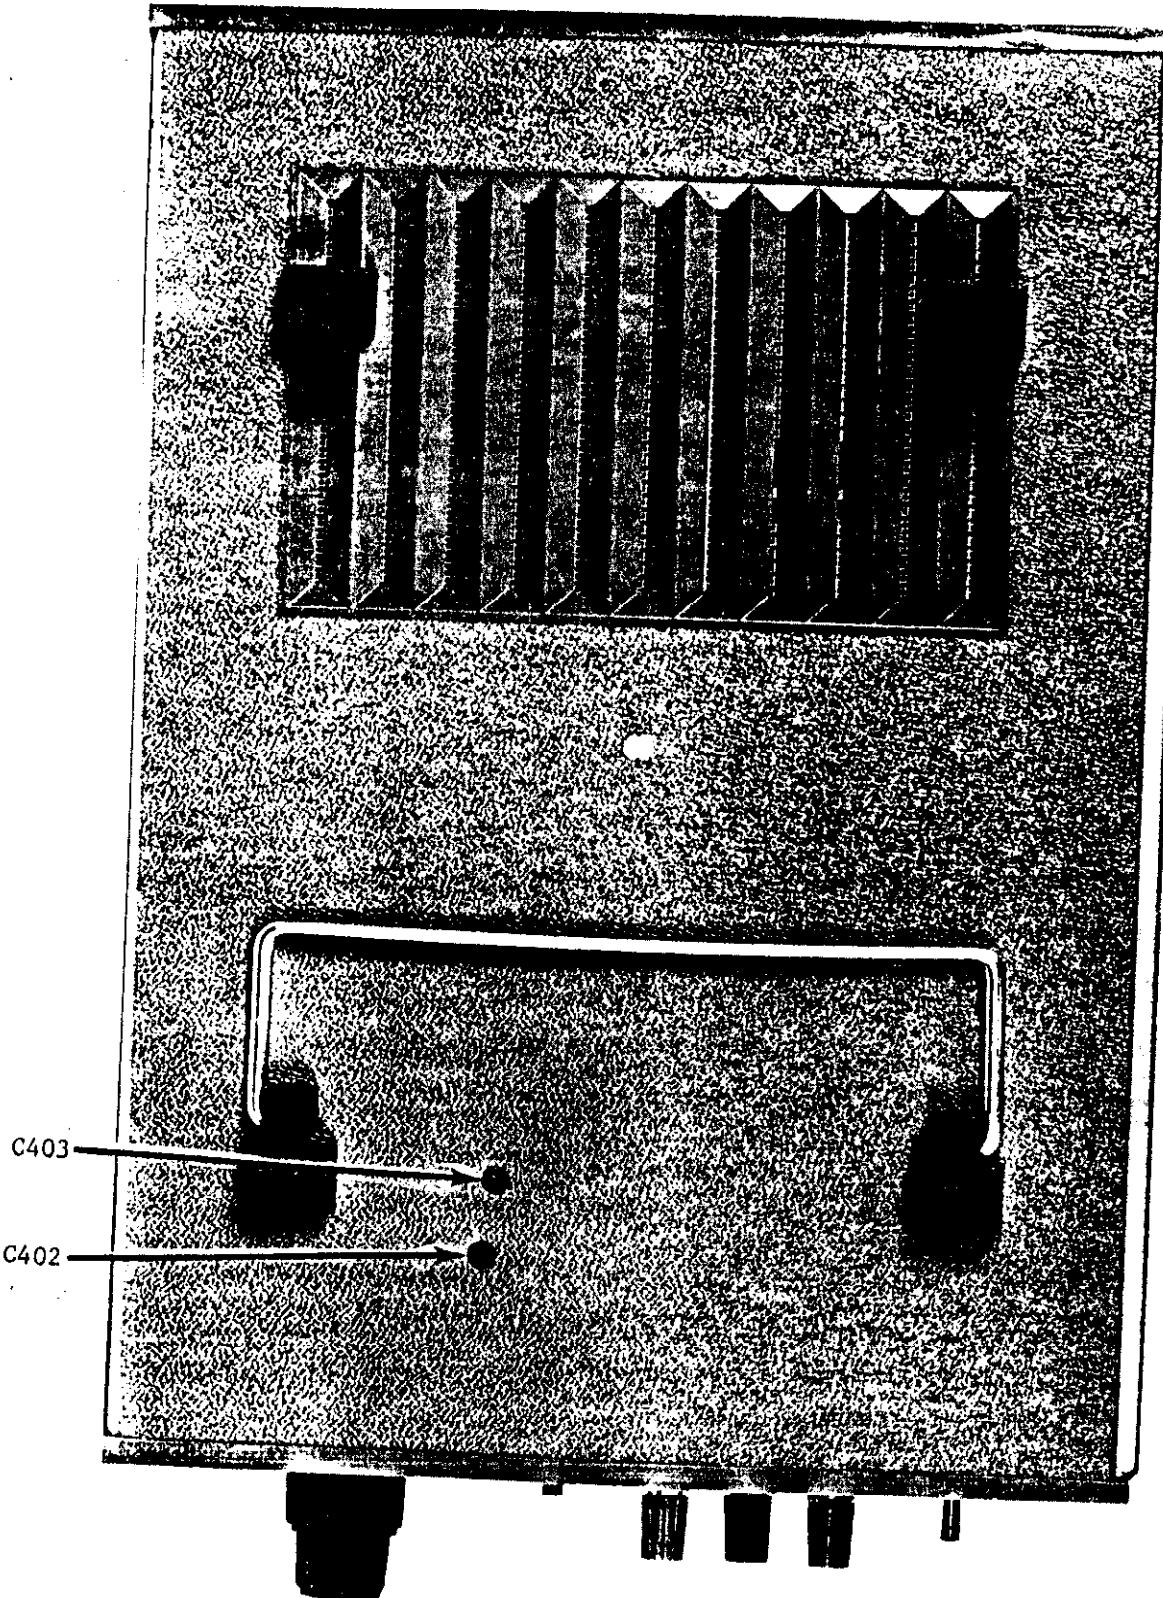

FIGURE 13. Calibration Adjustments through Bottom Cover.
e. DC Volts Calibration Verification. (see Table 5-10). The DC Voltage Source (A) is used directly for the 1 volt to 1000 volt ranges. For the 100 mV and 10 mV ranges, 1 volt from the DC Voltage Source (A) is divided by a ratio of 10:1 and 100:1 respectively using the Voltage Divider (B). For convenience, it is recommended that the tests of Table 5-10 be done in the autoranging mode. They may also be done in the manual range mode. Verification should be made for both positive and negative inputs. Table 5-10 indicates the allowed reading tolerance, equivalent settings, and temperature coefficient. If dc volts cannot be verified, repeat Paragraphs 5-4c. If dc volts still cannot be verified, consult Troubleshooting Section 5-5.
f. DC Amps Calibration Verification. (see Table 5-11). The DC Current Source (D) is used for the 100 microamp through 100 milliamp ranges. The 1000 milliamp range may be verified at the 100 milliamp level, since both the 100 and 1000 milliamp ranges use the same sensing resistance. For the 1 and 10 microamp ranges, DC Voltage Source (A) and DC Current Resistors (E) are used to develop the appropriate test currents. Settings for the DC Voltage Source (A) and the resistance box called DC Current Resistors (E) are given in Table 5-11. Both positive and negative currents should be verified. Autoranging is suggested for convenience, except on the 1000 milliamp range where it is necessary to use the manual range mode. The manual mode may be used on all range tests if desired. If dc amps cannot be verified, consult Troubleshooting Section 5-5.
g. Ohms Calibration Verification. (see Table 5-12). The Resistance Source (G) is used for all ohms ranges of the 165 through the 10-megohm range. A discreet 100-megohm resistor, Resistance Source (H) is used for the 100-megohm range. On this range, the sensitivity of the 165 is 1 pA per digit. Ideally, the 100-megohm resistor should be shielded to avoid electrostatic pickup. However, it is possible to verify this range without grounded metal shielding around the resistor, if care is used not to move anything around in the vicinity of the 100-megohm resistance, creating small electrostatic currents. Again, autoranging is suggested for convenience, although manual ranging may be used throughout. If ohms cannot be verified, repeat Paragraphs 5-4c. If ohms still cannot be verified, consult Troubleshooting Section 5-5.
- Set the 165 to the AC VOLTS function, manually selecting the 1-volt range. Connect the AC Voltage Source (C) to the input terminals of the 165. Set the AC Voltage Source (C) to 1 volt output at 20kHz. Record the 165 display reading.
- Set the AC Voltage Source (C) to 100 volts output at 20kHz. Adjust calibration variable-capacitor C402 (see Figure 13 and the bottom cover of the 165) so that the 165 displays the same digits as recorded in step 1. Tolerance on this adjustment is ± 0.5 digit.
- Set the AC Voltage Source (C) to 10 volts output at 20kHz and adjust calibration variable-capacitor C403 (see Figure 13 and the bottom cover